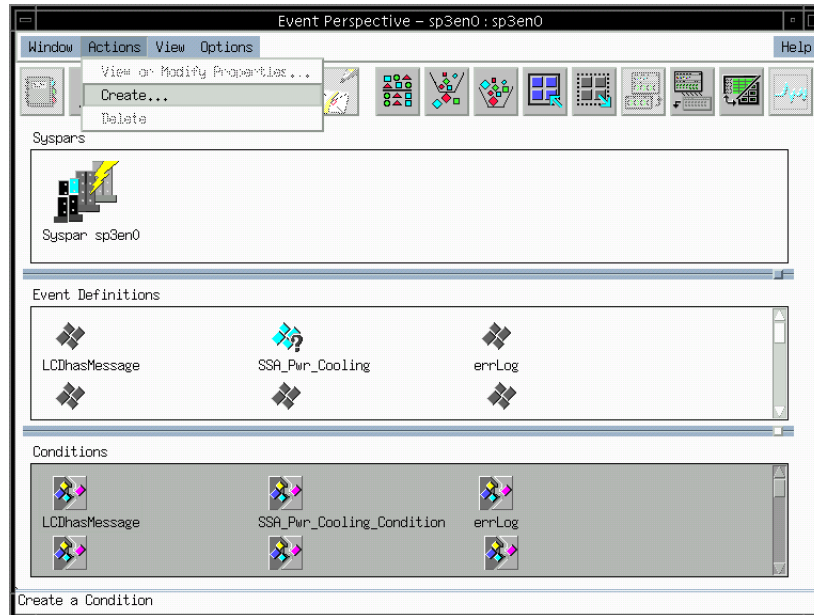

Figure 142. Create condition option from Event Perspectives
Step 4 Create the condition. To create the condition, let us move the focus to the conditions panel on Event Perspective and then select **Actions->Create...** as shown in Figure 142.